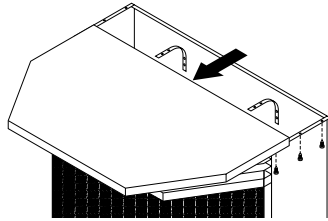

Figure 13 - Removing Stove Top Panel
- Remove top panel of stove by removing three screws from under top lip on each side of stove (see Figure 13).
- Facing front of stove, carefully slide top panel forward until it is completely removed from stove (see Figure 13).